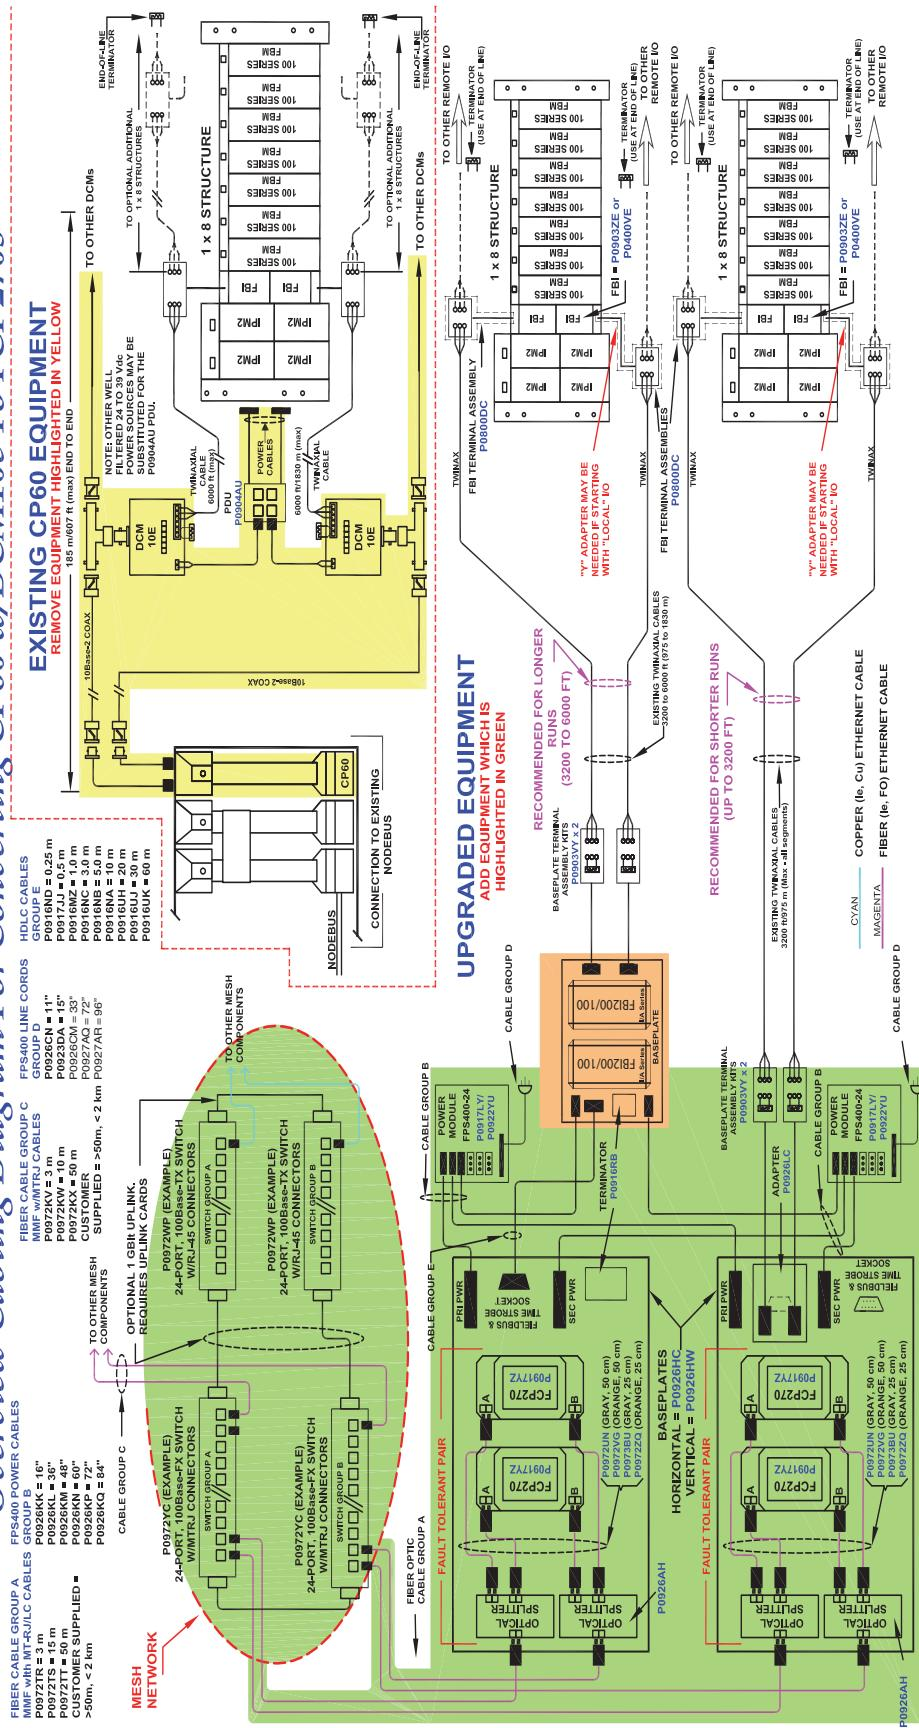

Figure A-3. Converting CP60 with DCM10E to FCP270
- ◆ Figure A-3 “Converting CP60 with DCM10E to FCP270” on page 86